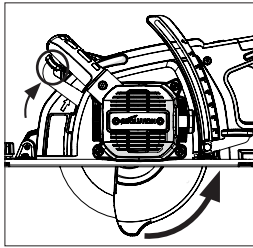

Fig. 18
Note: The lower blade guard is designed to be pushed (rotated) out of the way at the start of a cut by lifting the blade guard retraction lever (6) to start this rotation may help when cutting certain materials. (Fig.18)